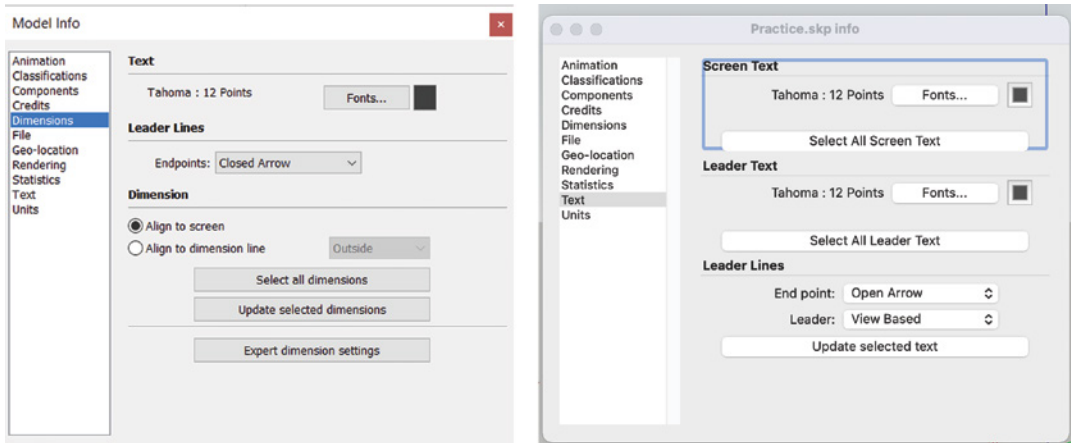

Figure 3-41: Dimensions (PC) and text settings (Mac).
- ▶ *Units, Dimensions, and Text*. Go to **Window>Model Info**. Adjust settings such as those shown in Figure 3-41.